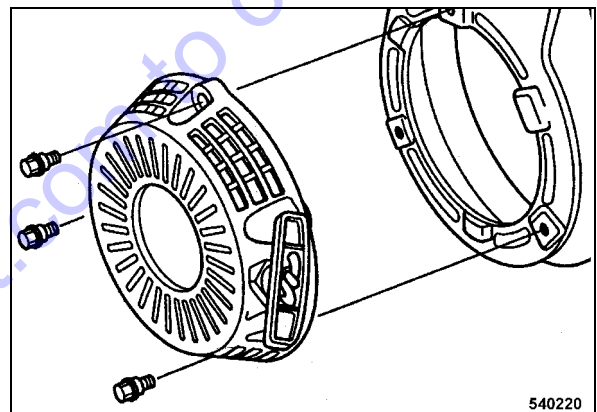

Fig. 45
- Remove the recoil starter (Fig. 45).